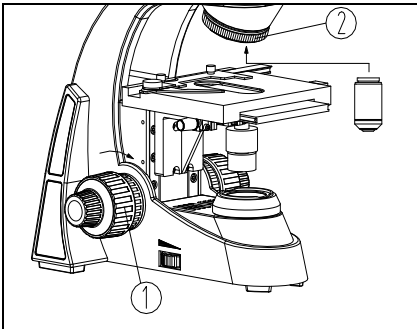

Fig.3
1. Rotate the coarse focusing knob (1) to lower the stage to a suitable location (See Fig.3).